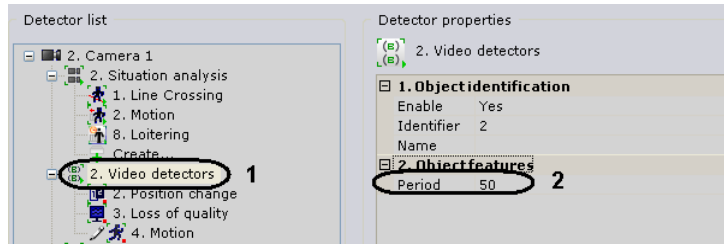

Fig. 6.4—13 Setting the general parameters of video detectors
1. In the detector list, highlight a **Video detector** object (Fig. 6.4—13, 1) which offers a means of analyzing the video image from the desired video camera.
2. In the **Period** field (see Fig. 6.4—13, 2), enter the time in milliseconds after which the next video image frame will be processed. The value should be in the range [0, 65535]. If the value is 0, each frame of the video image is processed.